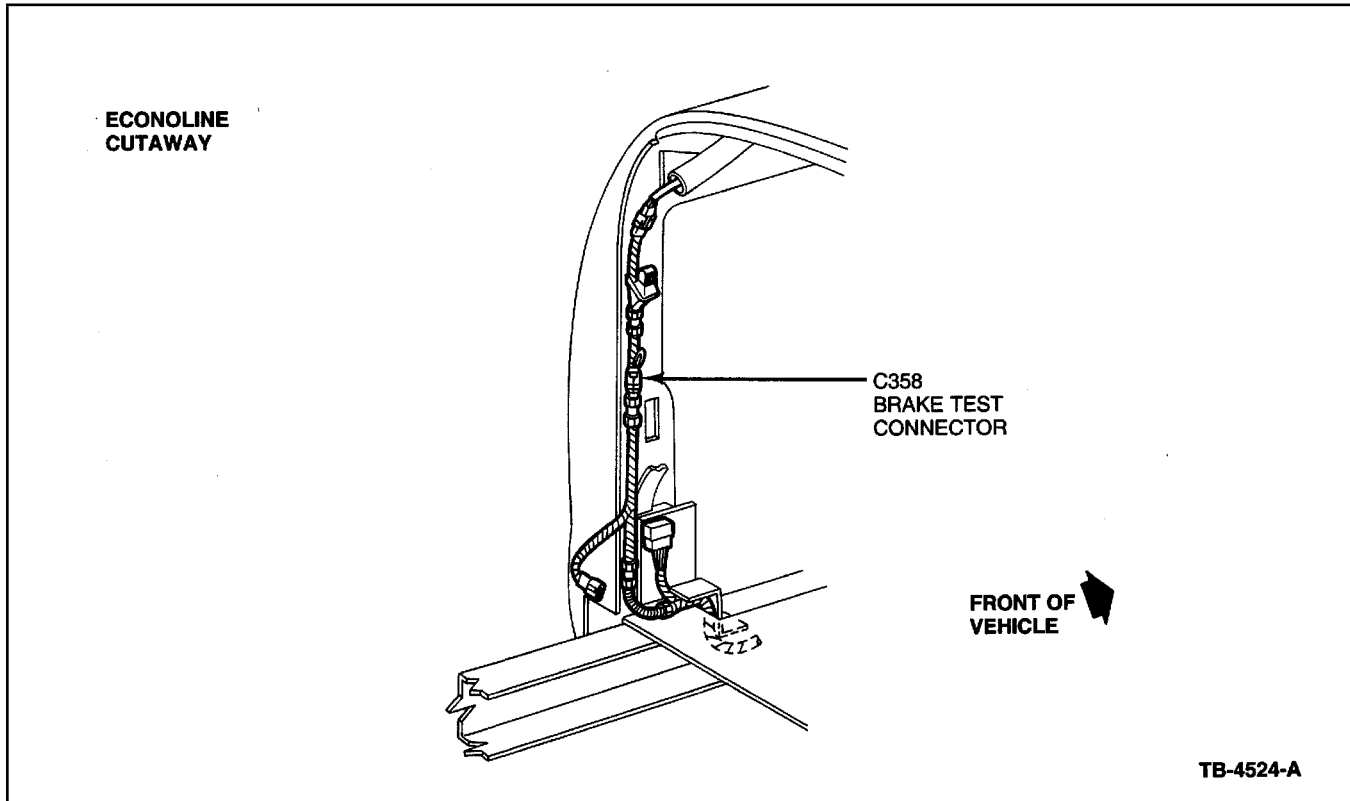

Figure 1 - Article 96-8-18
3. Locate brake test connector C358, Figure 1. This is a 2-way gray connector.